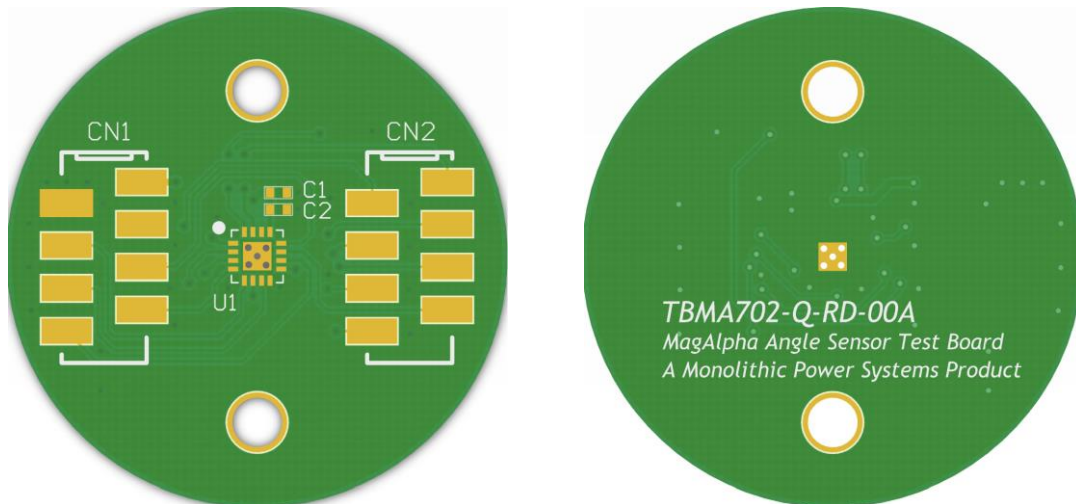

Figure 12: RD Type 2 Board Overview
Figure 12 shows an overview of the Type 2 round (RD) board.